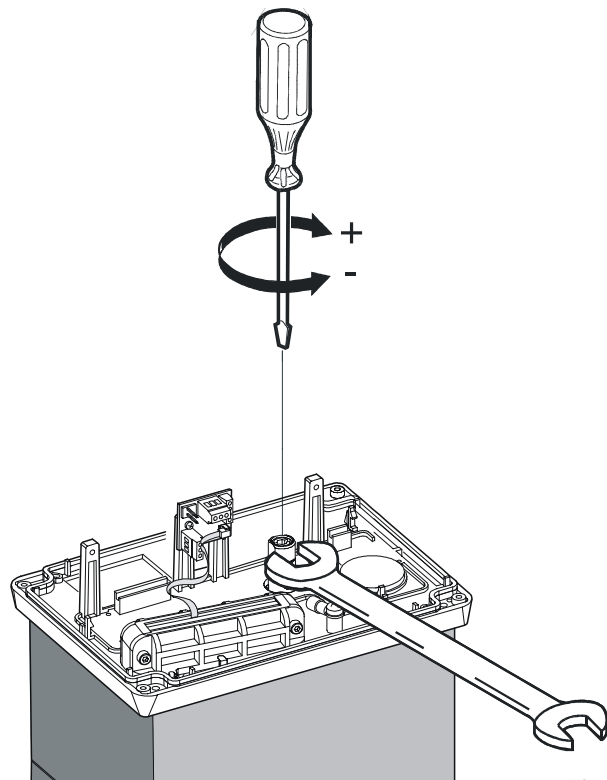

Fig. 23
- 2) Keep the motor shaft locked with a wrench, and turn the clutch adjustment screw with an Allen wrench or screwdriver Fig. 23.